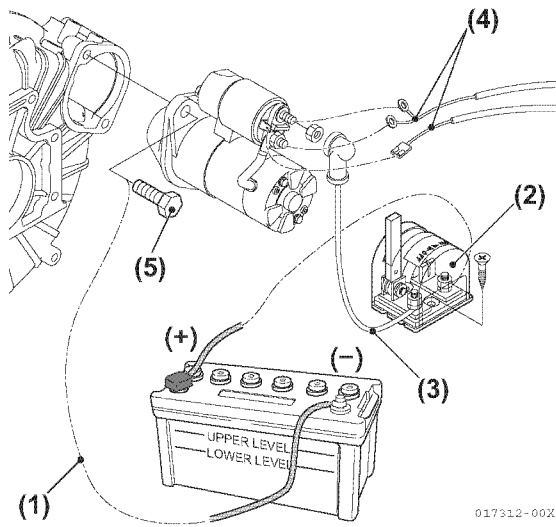

Figure 10-3
1. Disconnect the negative (-) battery cable (Figure 10-3, (1)) and turn the battery master switch OFF (if equipped) (Figure 10-3, (2)).
2. Disconnect positive (+) cable (Figure 10-3, (3)) and primary wires (Figure 10-3, (4)).
3. Remove bolts (Figure 10-3, (5)) securing the starter motor to the flywheel housing.